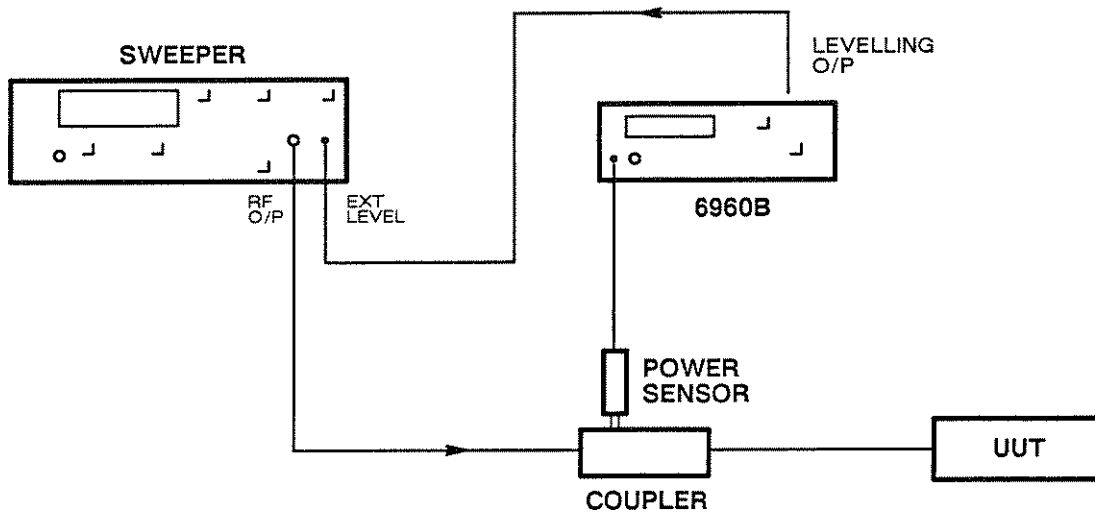

Fig. 3-4 Sweeper levelling using the 6960B
- Sweeper levelling - Use the LEVELLING OUTPUT for levelling of voltage tunable oscillators or sweep generators. (see Fig. 3-4).